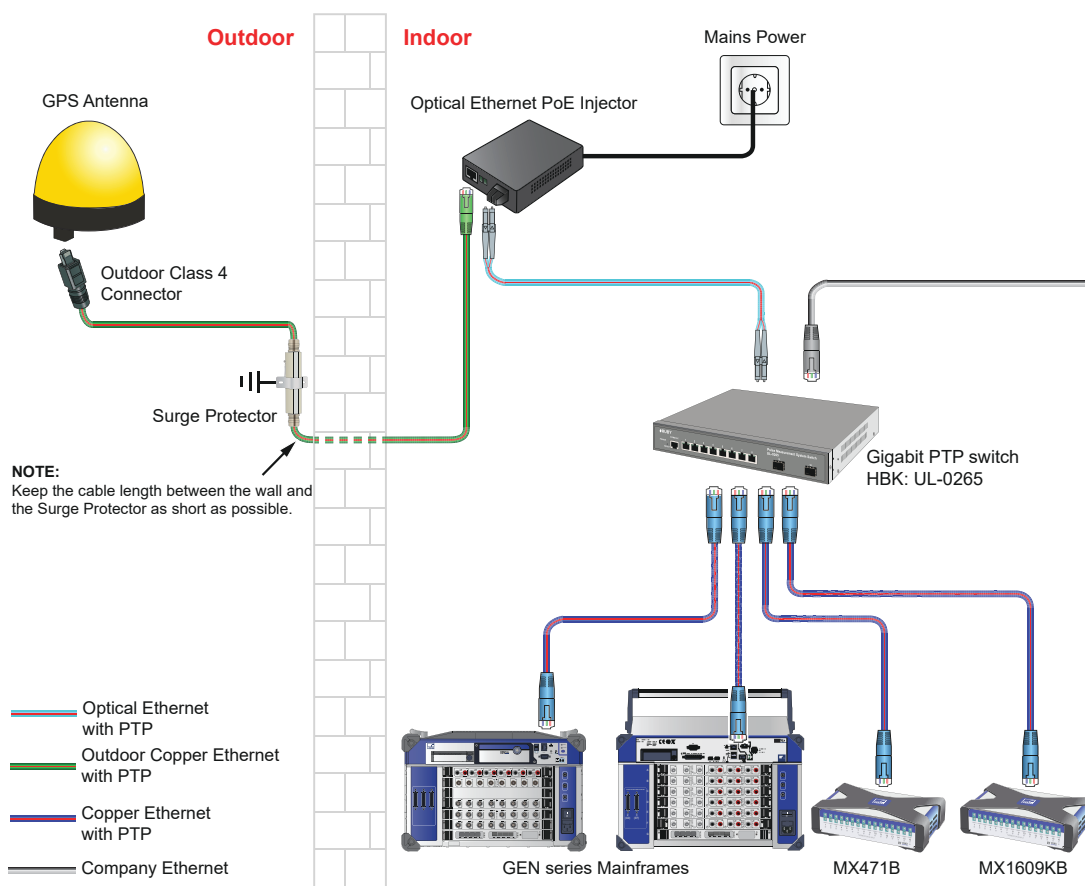

Figure 14.30: GPS setup for tethered mainframes and QuantumX
- 7 After finishing these steps the G002B option is fully installed and operational (see also Figure 14.30).